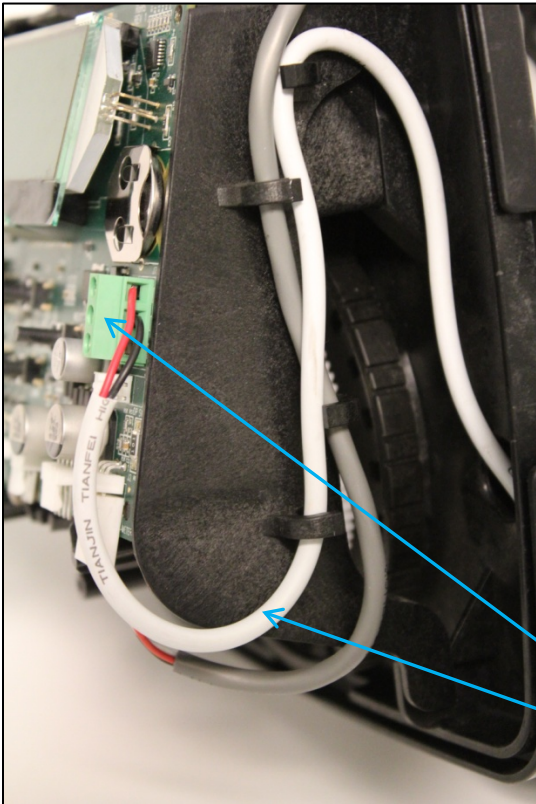

Figure 5.
4. Run the wire to the right side of the valve circuit board as shown in Figure 5. Locate the PC Board Relay Terminal Block; connect the red wire to Relay 1, and black wire to COM. Make sure the wire connection screws are tight.